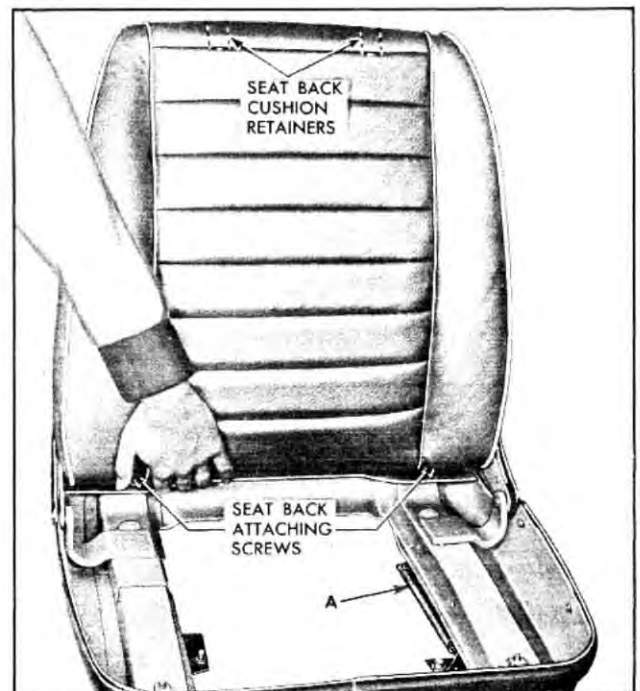

Fig. 15 Removing Bucket Seat Back Cushion
After seat cushion has been removed, the seat-back cushion may be removed by tilting the seat-back forward and removing two attaching screws along lower edge of seat-back; with seat-back in raised position, move seat-back cushion downward while pulling lower edge of cushion forward. (Fig. 15)
2. Remove horizontal travel assist spring. (See "A" in Fig. 15)